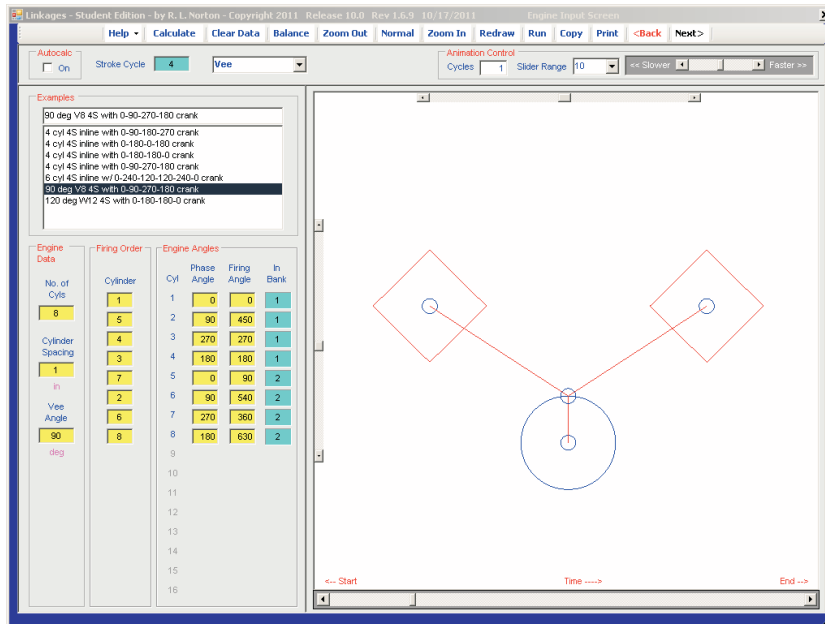

FIGURE 28
Once the single-cylinder configuration is satisfactorily designed and balanced, the engine can be assembled. Figure 28 shows the *Engine Assemble* screen used for assembly of a multicylinder engine. Its *Help* button brings up information on how to use this screen, pointing out that the crank phase diagram (called a **Power Chart**) as defined in Section 14.2 and shown in Figures 14-9, 14-12, 14-14, 14-16, 14-18, and 14-24 should be defined and drawn manually before proceeding with the assembly of the engine. The assumptions and conventions used in the program to number the cylinders and banks are stated on the *Help/Guidelines* screen. These are the same conventions as were defined in Section 14.2 of the text. The upper limit stated in item 7 of the *Guidelines* for the acceptable range of power stroke angles will be either 360° for a two-stroke engine or 720° (as shown) for a four-stroke engine.
needs to be supplied in the box at the left of the screen in Figure 28. If you only want to compare two or more engine designs on the basis of relative shaking moment, then the default value of one will suffice. The computation sums moments about the first cylinder, so its moment arm is always zero. The small offset between a vee engine's banks, due to having two conrods per crank throw, is ignored in the moment calculation.